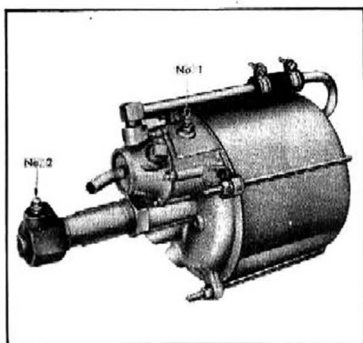

Fig. 59—Hydrovac
4. Connect bleeder tube to hydrovac bleeder valve No. 1, Figure 59, open bleeder valve and bleed until all air bubbles disappear (approximately $\frac{1}{2}$ pint of fluid). Close bleeder valve.
5. Connect bleeder tube to hydrovac bleeder valve No. 2, Figure 59, open bleeder valve and bleed until all air bubbles disappear. Close bleeder valve.
3. On all models except 1½ and 2 ton, remove bleeder valve screw and screw bleeder tube into bleeder valve. On 1½ and 2 ton models, connect bleeder tube to hydrovac bleeder valve No. 1, Figure 59. Place end of tube in a container having sufficient fluid to cover end of tube.
The Hydrovac (fig. 59) consists of three operating units built into one assembly; namely, the control valve assembly, the vacuum power cylinder and the brake hydraulic cylinder.